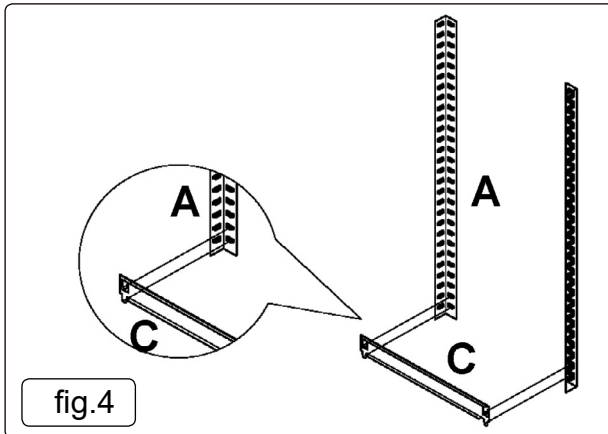

fig.4
See Fig.4. Support two upright angle posts (A) in a vertical position. Join them together at the base using a short step beam (C). Tap the beam at either end, close to each angle post to ensure that the tabs are seated in the slots.